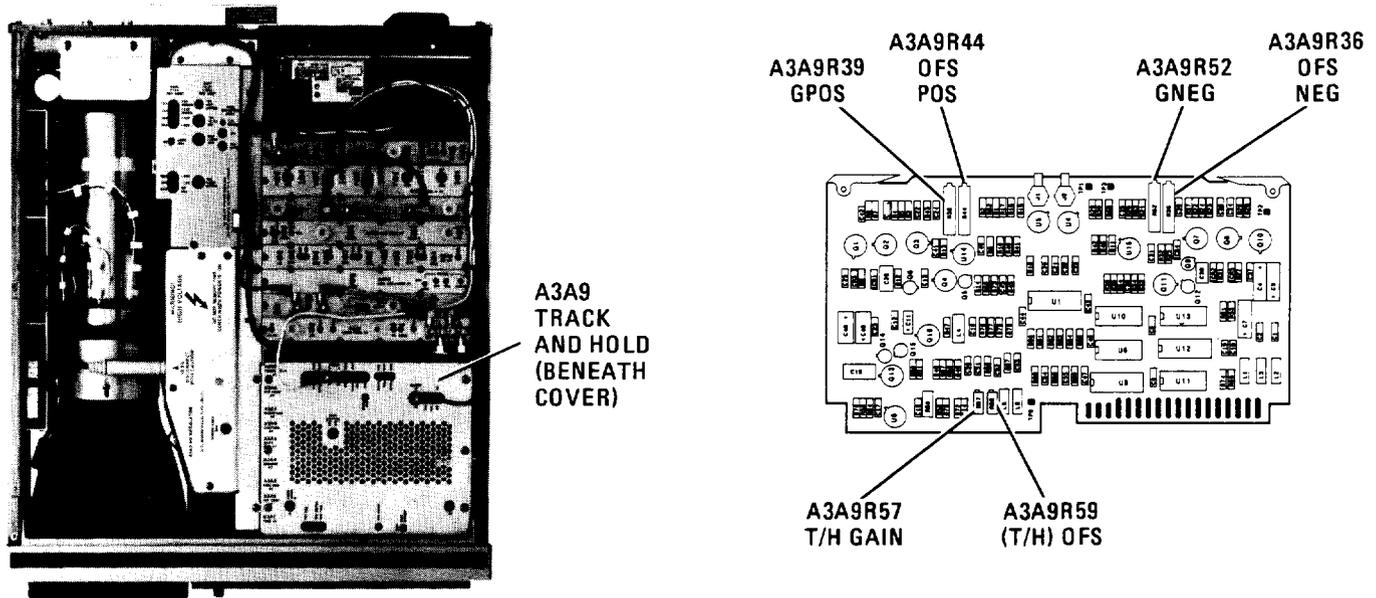

FIGURE 77. LOCATION OF TRACK AND HOLD ADJUSTMENTS
9. Adjust A3A9R59 (T/H) OFS until MARKER Δ level indication as indicated by CRT annotation flickers back and forth between .00 and .10 dB. Refer to Figure 77 for location of adjustment.
11. Adjust A3A9R44 OFS POS until MARKER Δ level indication as indicated by CRT annotation flickers back and forth between .00 and .10 dB. Refer to Figure 77 for location of adjustment.
13. Adjust A3A9R36 OFS NEG until MARKER Δ level indication as indicated by CRT annotation flickers back and forth between .00 and .10 dB. Refer to Figure 77 for location of adjustment.
19. Adjust A3A9R57 T/H GAIN for MARKER Δ level indication as indicated by CRT annotation of 100 ± 0.1 dB. Refer to Figure 77 for location of adjustment.
21. Adjust A3A9R39 GPOS for MARKER Δ level indication as indicated by CRT annotation of 100 ± 0.1 dB. Refer to Figure 77 for location of adjustment.
23. Adjust A3A9R52 GNEG for MARKER Δ level indication as indicated by CRT annotation of 100 ± 0.1 dB. Refer to Figure 77 for location of adjustment.